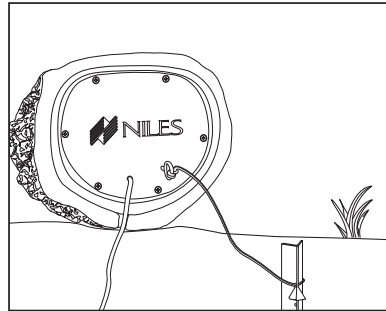

Figure 12.
6. Pick a spot in the ground which the loudspeaker will cover and drive the security stake all the way into the ground until the cable holder is completely under the surface of the ground, as shown in **Figure 12**.